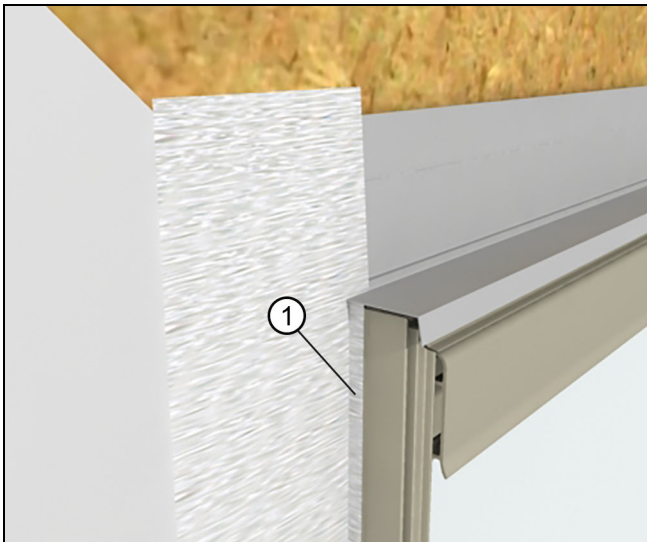

Figure 36
3. Lap vertical strips of flashing onto the unit or casing and out over the weather resistive barrier. Make small cuts at the head jamb to allow the flashing to fold back onto the exterior. See Figure 36.